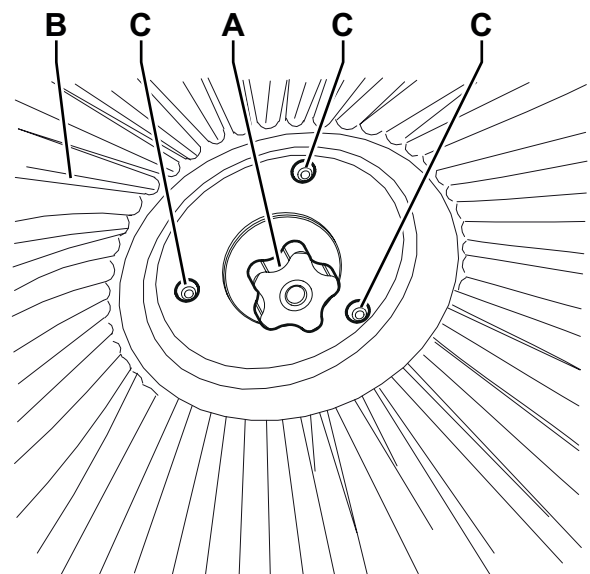

Figure 7
2. Turn the ignition key (2) to "0".
3. Loosen the knob (A, Fig. 7) inside the side broom, then remove the broom (B) by disengaging it from the three pins (C).
4. Install the new broom on the machine engaging it on the pins (C), then tighten the knob (A).